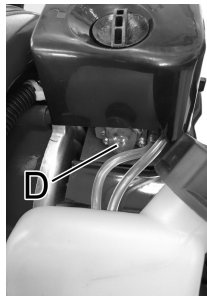

Fig.10
2. Pump primer bulb 10x by pressing on the bulb (D) (Fig.10).